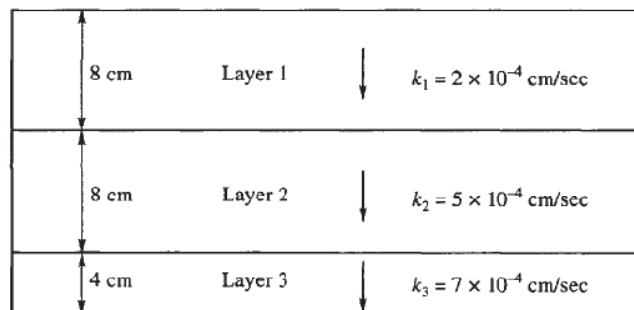

Fig. 1
b) In a falling head permeameter, the sample used is 20 cm long having a cross-sectional area of 24 cm^2 . Calculate the time required for a drop of head from 25 to 12 cm if the cross-sectional area of the stand pipe is 2 cm^2 . The sample of soil is made of three layers. The thickness of the first layer from the top is 8 cm and has a value of $k_1 = 2 \times 10^{-4} \text{ cm/sec}$, the second layer of thickness 8 cm has $k_2 = 5 \times 10^{-4} \text{ cm/sec}$ and the bottom layer of thickness 4 cm has $k_3 = 7 \times 10^{-4} \text{ cm/sec}$. Assume that the flow is taking place perpendicular to the layers (Fig. 1). 8